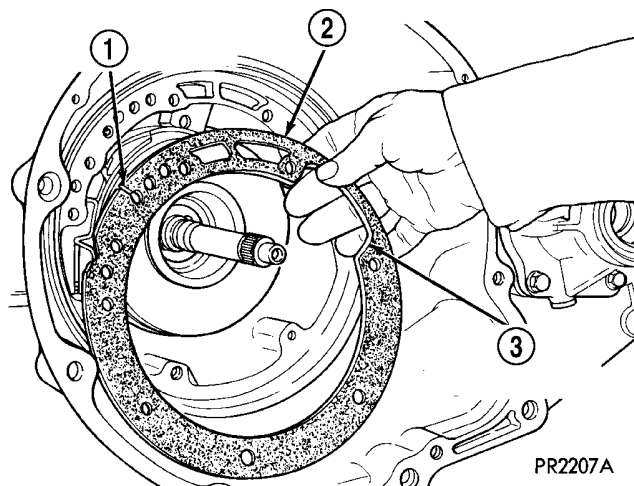

Fig. 29 Oil Pump Gasket
(29) Remove oil pump gasket (Fig. 29).